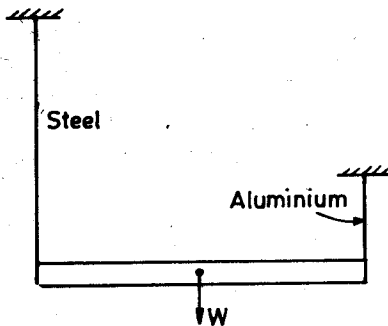

Fig. 27
66. Steel rope and aluminium rope of same cross-section are used to support a uniformly distributed load W from two ends as shown in Fig. 27. In order to keep the beam horizontal, the ratio of length of steel to aluminium wires should be (Ratio of coefficient of elasticity of steel and aluminium is 3)